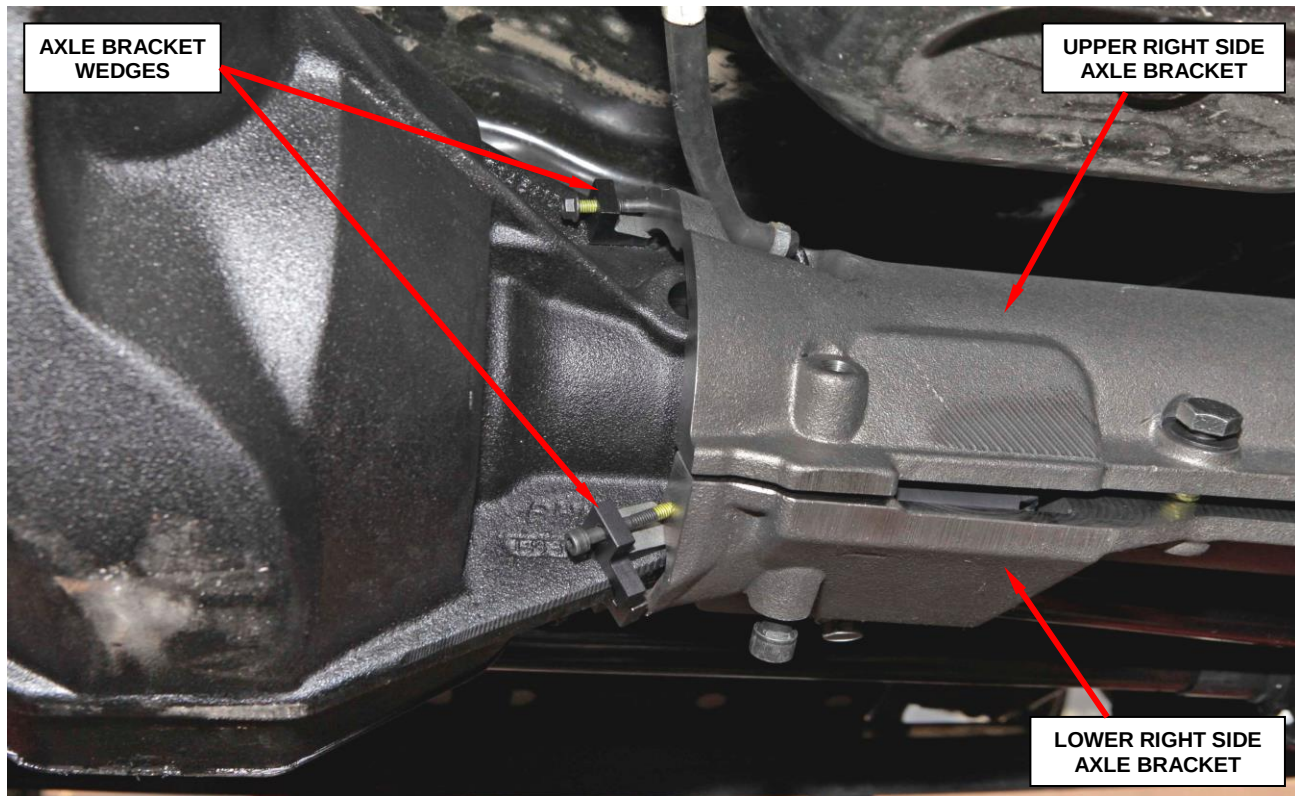

Figure 12 – Install Axle Bracket Wedges
- f. Install the three axle bracket wedges. Hand tight only (Figure 12).